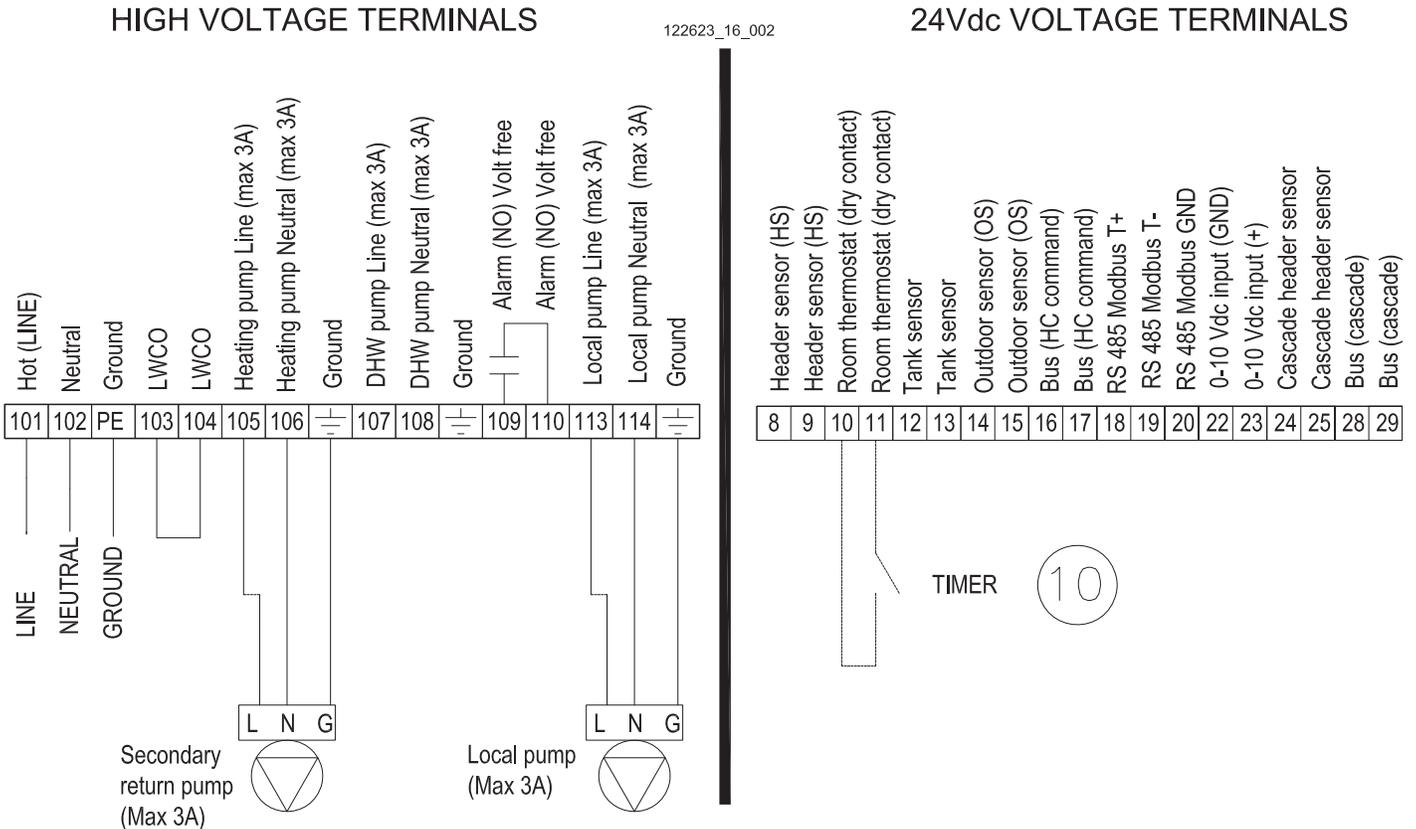

Figure 9-4 - Electrical customer connection for appliance without storage tank
- 2.- The pump (Local pump) must be connected to terminals “113” and “114” (See Figure 9-4) (a field supplied pump relay must be installed if the pump current draw is greater than 3 amps);
- 3.- A secondary return pump must be connected to terminals 105 and 106 (See Figure 9-4);
- 4.- A timer to control the secondary return pump and to give the call for heat to the appliance, must be connected to terminals 10 and 11 of Figure 9-4.